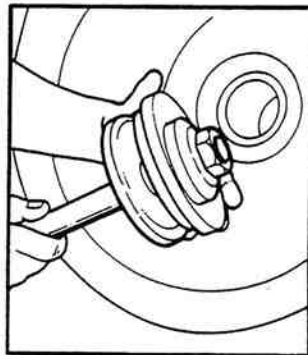

Figure 15-15. Seal and Adapter on Tool Rod.
9. Slip the seal adapter over the tool rod. Rest it on the seal so that the lip of the adapter fits over the outside of the seal (figure 15-15).